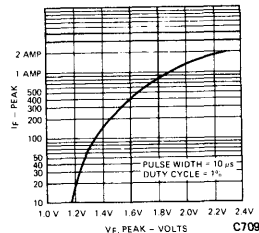

Fig. 3. If Peak Pulse Mode Characteristics
1. The curves in figure 3 are normalized to the power output at 25°C to indicate the relative efficiency over the operating temperature range.